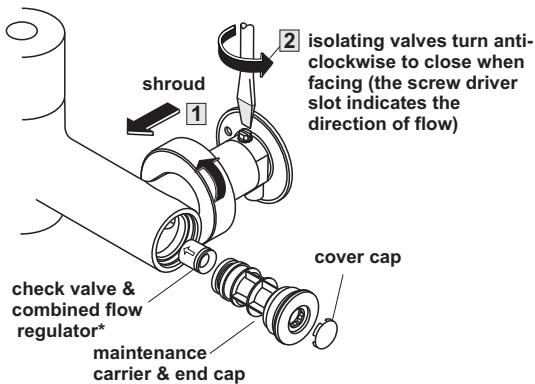

Figure 24 Exploded view showing strainers check valve and flow regulator
Note: To gain access to the cold water isolating valve, unscrew the right hand shroud (42) & slide forward to expose the isolating screw on top of the cold inlet leg (see fig 24, section 13). Using a flat-blade screw driver, the screw can be rotated 90° anti-clockwise to isolate the cold water supply.